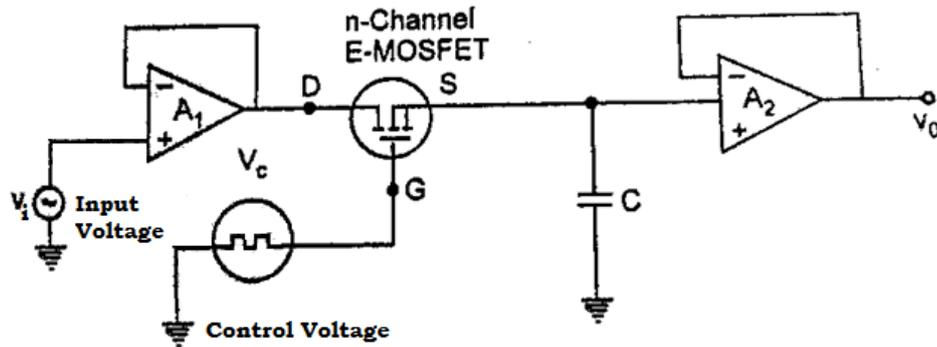

Fig. 3.52 Sample and Hold Circuit
- Peak detectors find application in test and measurement instrumentation as well as in amplitude modulation (AM) communication.
20. Draw sample and hold circuit and explain its operation. (Dec – 14, 15) (8)
- One of the simplest practical sample and hold circuit configuration is shown in Fig.3.52.